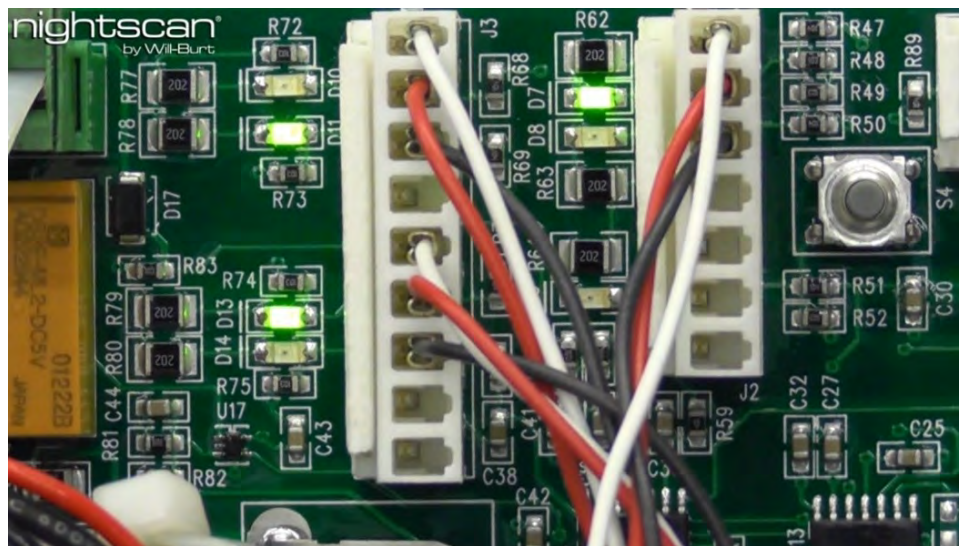

Figure 7-1 Diagnostic LEDs (stowed position example)
The PC Board mounted at the mast Base has LED indicator lights useful for diagnostics for circuits. Table 7-2 charts the colors of the relevant diagnostic LEDs for the various mast positions. An example of the diagnostic LEDs showing the mast in the stowed position is shown in Figure 7-1. These diagnostic LEDs can be used to help determine if an adjustment is necessary, for example if D7 / D8 shows Yellow when the mast is supposed to be stowed. They are also useful in assisting to determine when the switches have been properly adjusted.
6. Adjust the 90° Switch until it senses the actuator. This will be indicated by the diagnostic LEDs on the Base Board (Figure 7-1).
6. Check that the mast is properly stowed. This will be indicated by the diagnostic LEDs on the Base Board. As the mast comes down D11 and D13 will be green, and D7 will be yellow. Once stowed, D7 will also turn green (see Figure 7-1).
3. Remove the left base cover to expose the base PC Board diagnostic LEDs (see Figure 7-1).